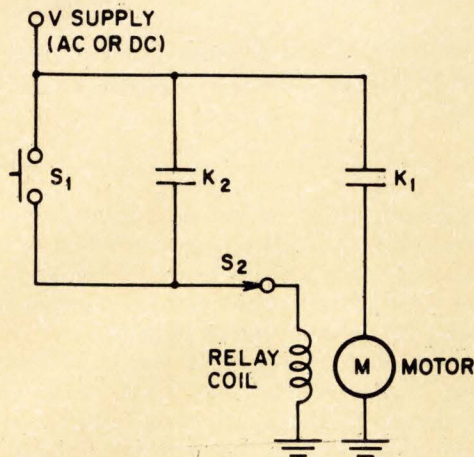

Fig. 1. It's awfully hard to beat the simplicity and economy of this arrangement for controlling a motor.
3. Large Quantity of Logic. A system or subsystem with a large number of logic elements is obviously implemented with one of the many available IC logic technologies. The relay computer has gone the way of the water clock. But, when the logic is simple, the use of a relay may be the most economical and simplest way to go. If, for example, you want to start a small motor when an operator pushes a button, and you keep the motor energized until the cycle is complete, a relay can be easily used as shown in Fig. 1.